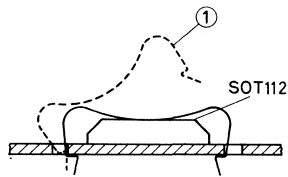

Fig. 1b Mounting.
2. Push the short end of the clip into the narrow slot of the heatsink with the clip at an angle of 10° to 30° to the vertical (see Fig. 1b).